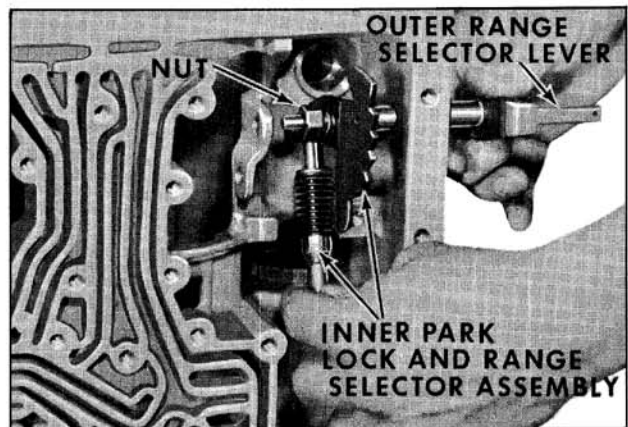

Fig. 6-483 Installing Actuator and Selector Assembly
4. Install inner park lock and range selector assembly to outer range selector lever. Install nut on range selector lever. (Fig. 6-483)